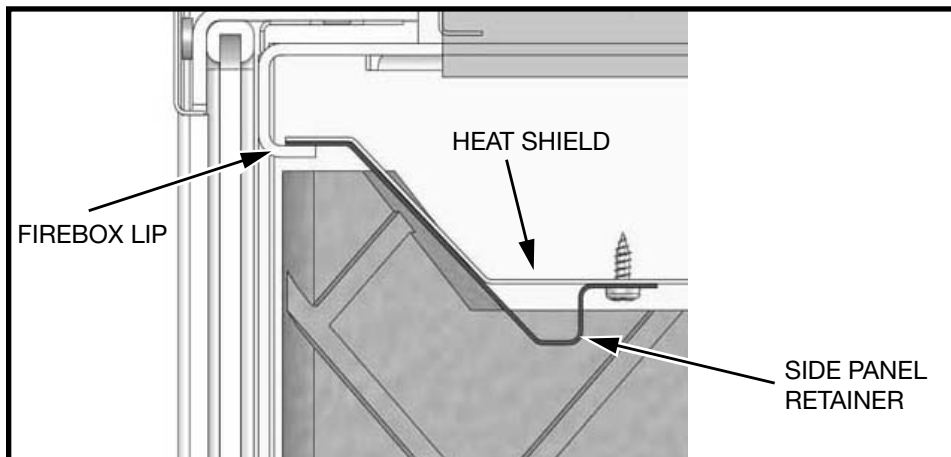
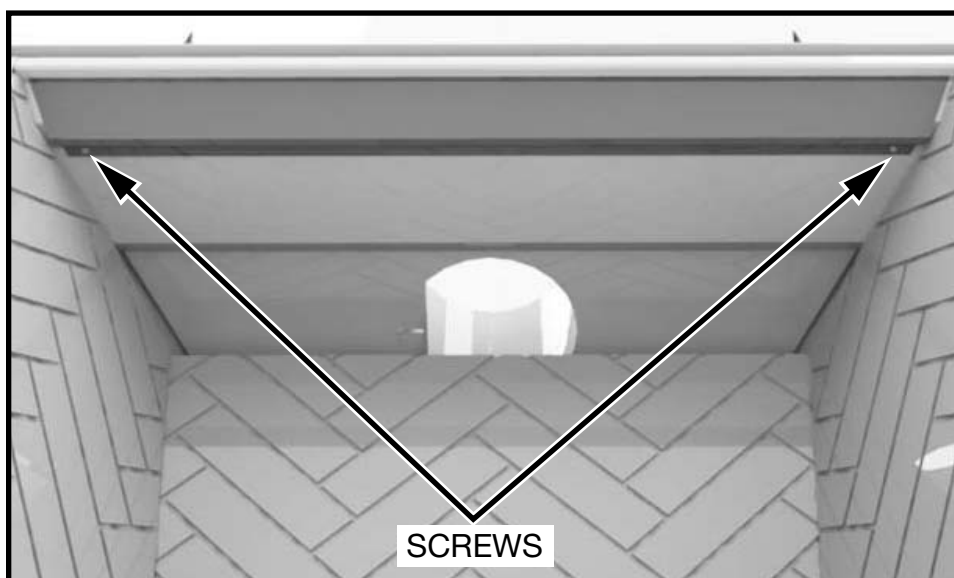

Figure 48: Side retainer.
Figure 49: Retainer panel screws location.
1. Remove the Side Panel Retainer (Figure 48) located on the underside of the firebox heat shield. The retainer slips between the lip of the firebox and the heat shield and is retained in place by two screws (Figure 49).